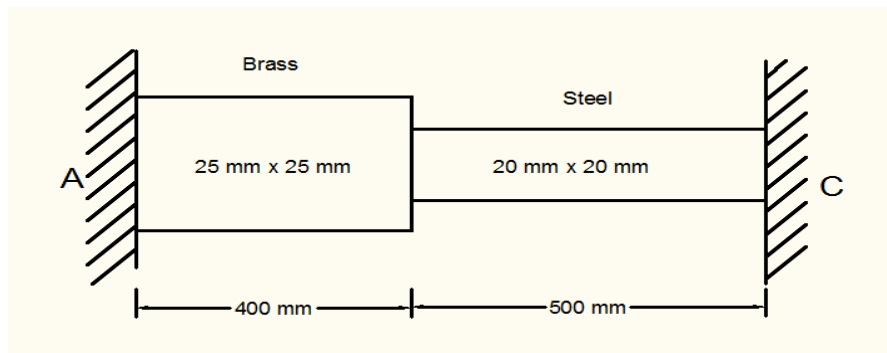

Fig : 1 (10)
1. a) Explain the stress-strain curve of a mild steel bar in tension test. (5)
b) A straight bar 450 mm long is 40 mm in diameter for the first 250 mm length and 20 mm diameter for the remaining length. If the bar is subjected to an axial pull of 15 kN find the maximum and minimum stresses produced in it and the total extension of the bar. Take $E = 2 \times 10^5 \text{ N/mm}^2$. (5)
2. A bar made of brass and steel as shown in Fig.1 is held between two rigid supports A and C. Find the stresses in each material if the temperature rises by 40°C . Take $E_b = 1 \times 10^5 \text{ N/mm}^2$; $\alpha_b = 19 \times 10^{-6} / ^\circ\text{C}$, $E_s = 2 \times 10^5 \text{ N/mm}^2$; $\alpha_s = 12 \times 10^{-6} / ^\circ\text{C}$